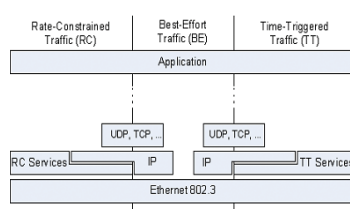

Fig. 2: Relation of TTEthernet to existing communication standards
As TTEthernet supports communication among applications with various real-time and safety requirements over a network, three different traffic types are provided: time-triggered (TT) traffic, rate-constrained (RC) traffic, and best-effort (BE) traffic. If required, the corresponding traffic type of a message can be identified based on a message’s Ethernet Destination address. The relation of the TTEthernet traffic types to existing standards is depicted in Figure 2.